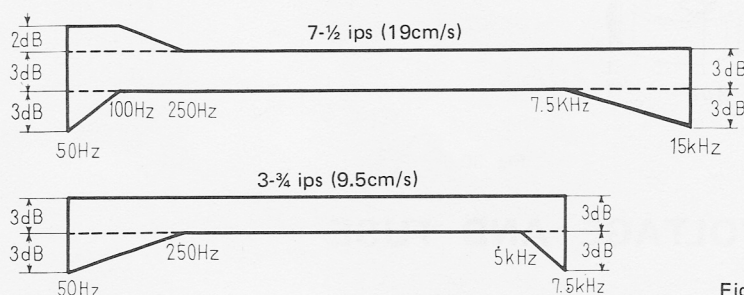

Fig. 26
5. Take meter readings on VTVMs. They should be within the specified response range shown in Fig. 26.
7. If only the high end of the frequency shows insufficient response, this can usually be corrected by slightly reducing the bias current (see item 8.2, p. 41).